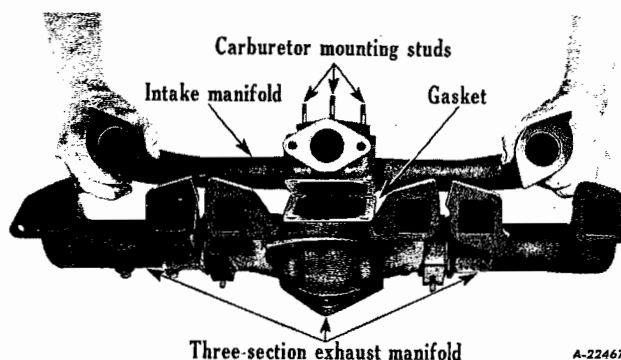

Fig. 29
3. The intake manifold is of one piece construction. The exhaust manifold is of three piece construction (Fig. 29).